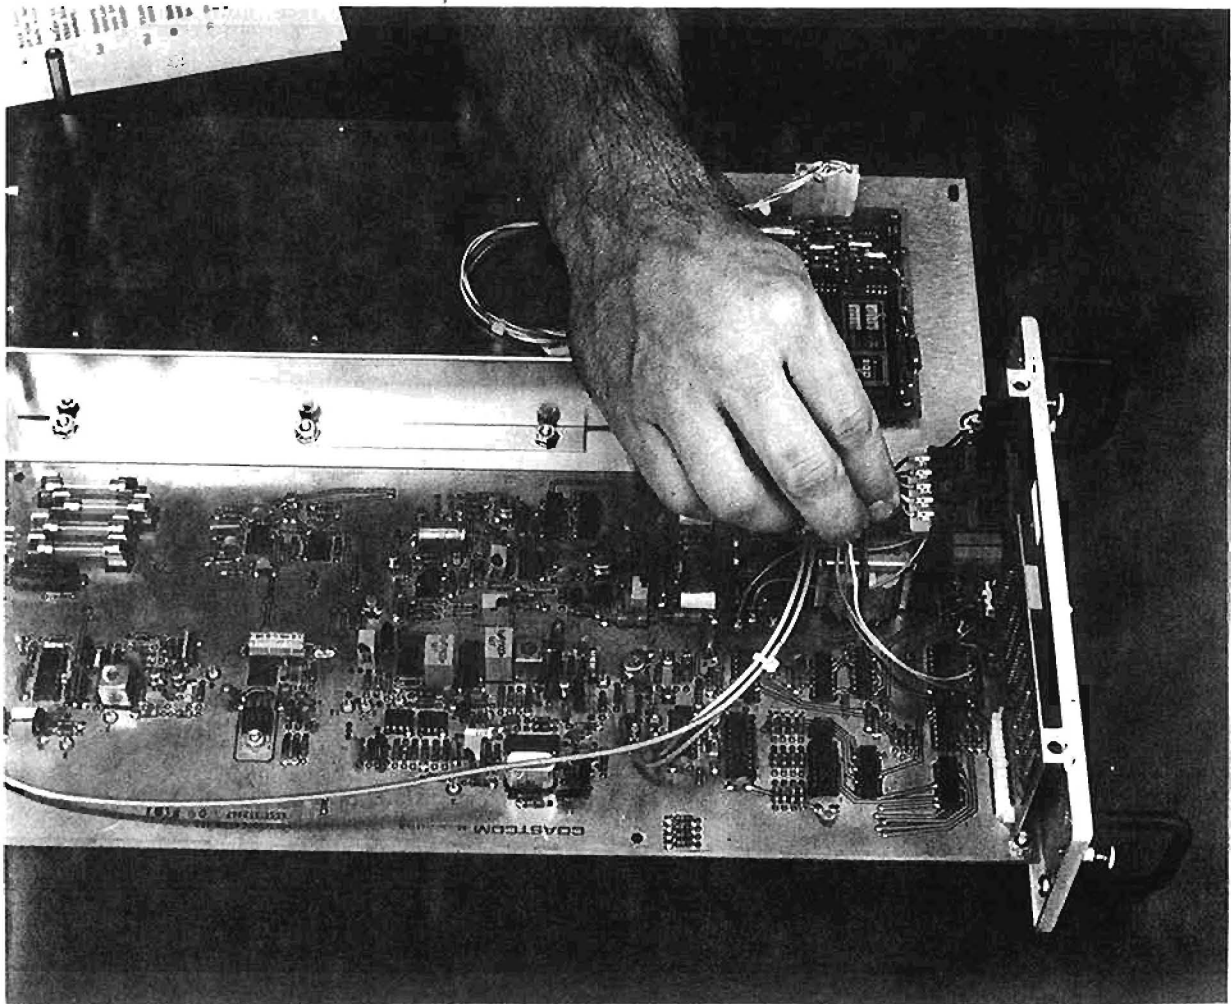

FIGURE NO. 6
- 6) Remove the thumbwheel switch from the front panel. It may be necessary to remove the two headset jacks before the switch can be removed. (See figure No. 6)